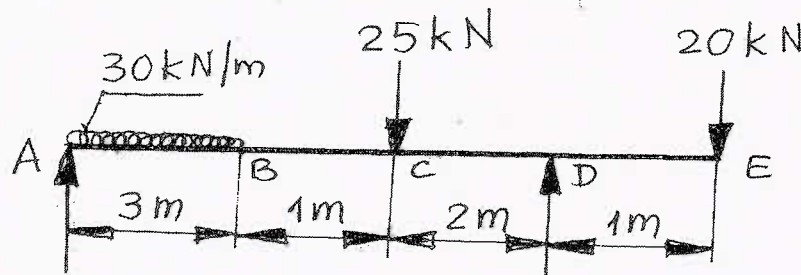

Fig.Q.5
- 5 Draw the shear force and bending moment diagrams for a beam loaded as shown in Fig.Q.5. Determine the location of point of contraflexure. Also find maximum bending moment and its location. (20 Marks)